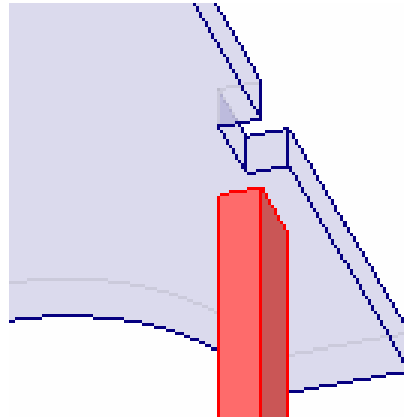

Figure 17. Cross Piece moved prior to mating.
34. With the two edges selected (red), right click and select Center Axis. The cross piece will center with the notch. Use part selection to select the cross piece and move it so it is similar to figure 17. It will slide in the constraint plane. Be sure to move the cross piece so that the left end is near the notch.